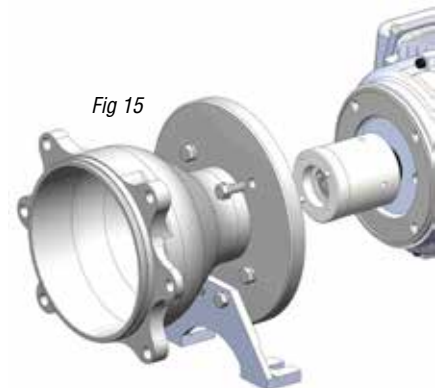

Fig 15
- Using the appropriate socket, remove the four hex bolts (item 16) that attach the motor adapter to the motor. Carefully slide the motor adapter off the motor face and over top of the shaft adapter. See figure 15.
- For pumps with a NEMA motor: Loosen the setscrews (item 27) on the shaft adapter and remove it from the motor shaft.
- For pumps with an IEC frame motor - loosen and remove the bolt and washers (items 18, 19 & 20) in the center of the shaft adapter and pull it off the end of the motor shaft.